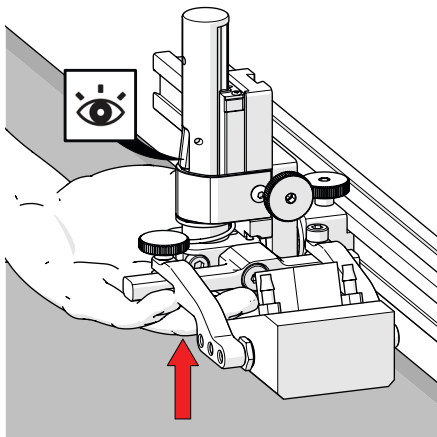
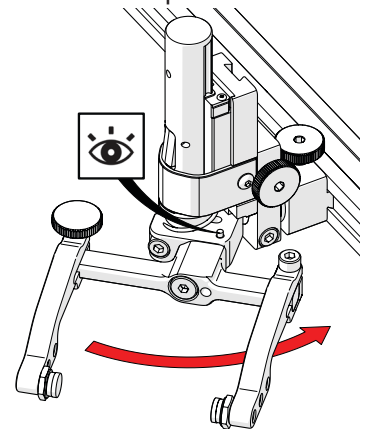

Fig. 58 - Latch probe holder
Fig. 64 - Stop post locates 90°
1. Ensure the probe holder is in the latched, upper position. Lift the probe holder until the latch is fully exposed and snaps out to lock (Fig. 58).
1. Ensure the probe holder is in latched, upper position (Fig. 58).
To return the transverse adjustment to neutral (90°). The probe holder must be in the latched, upper position (*Fig. 58*). Rotate the yoke until the stop post contacts the base of the probe holder (*Fig. 64*). Then tighten the transverse adjustment screw.
1. Ensure the probe holder is in latched, upper position (*Fig. 58*).